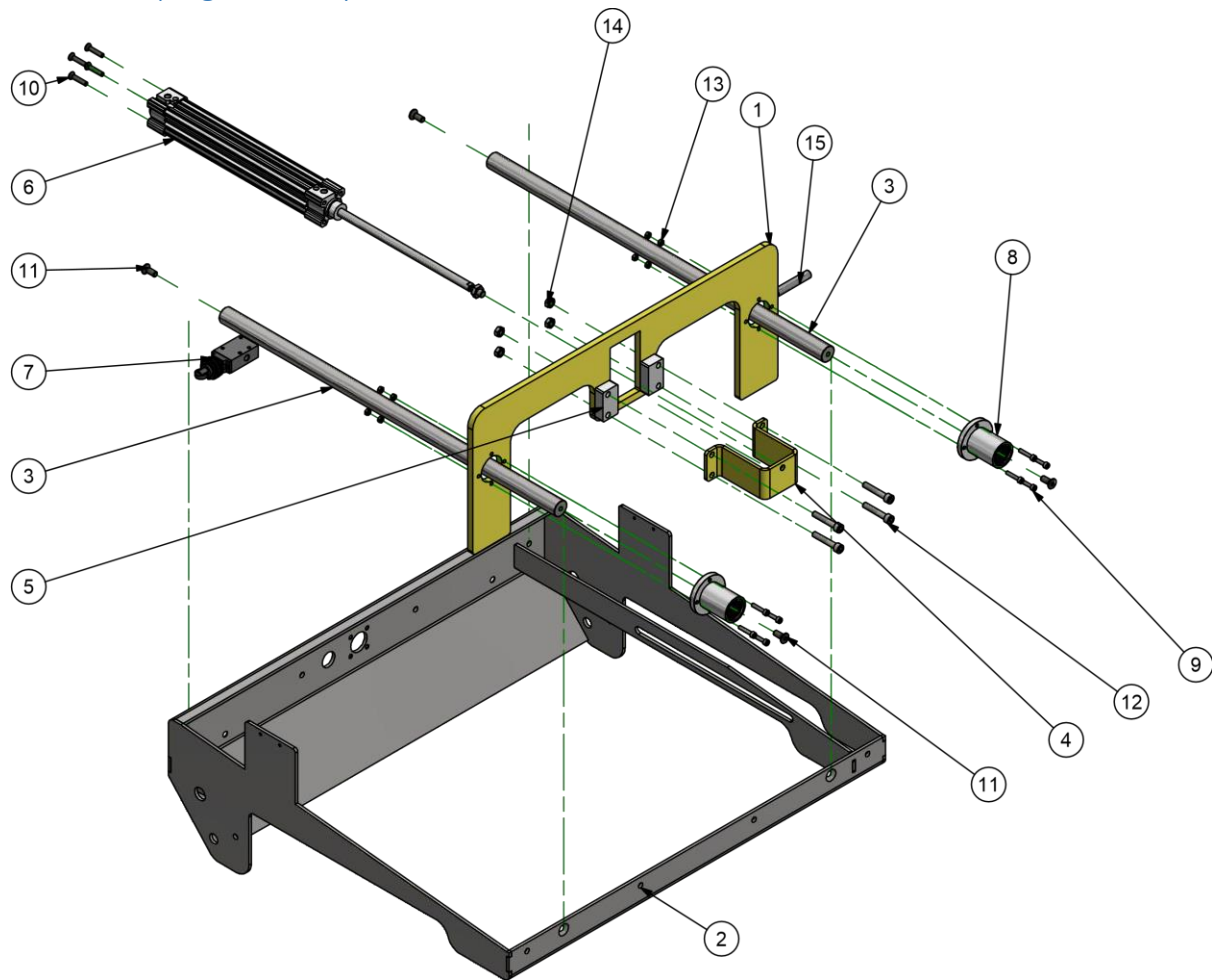

Figure 6, Snip Saw 500 Clamp assembly
Check lid is tight with no loose bolts and pivots freely. Make sure the safety valve on lid is fastened securely (see Figure 6 item 7) and lid gas struts firmly secured